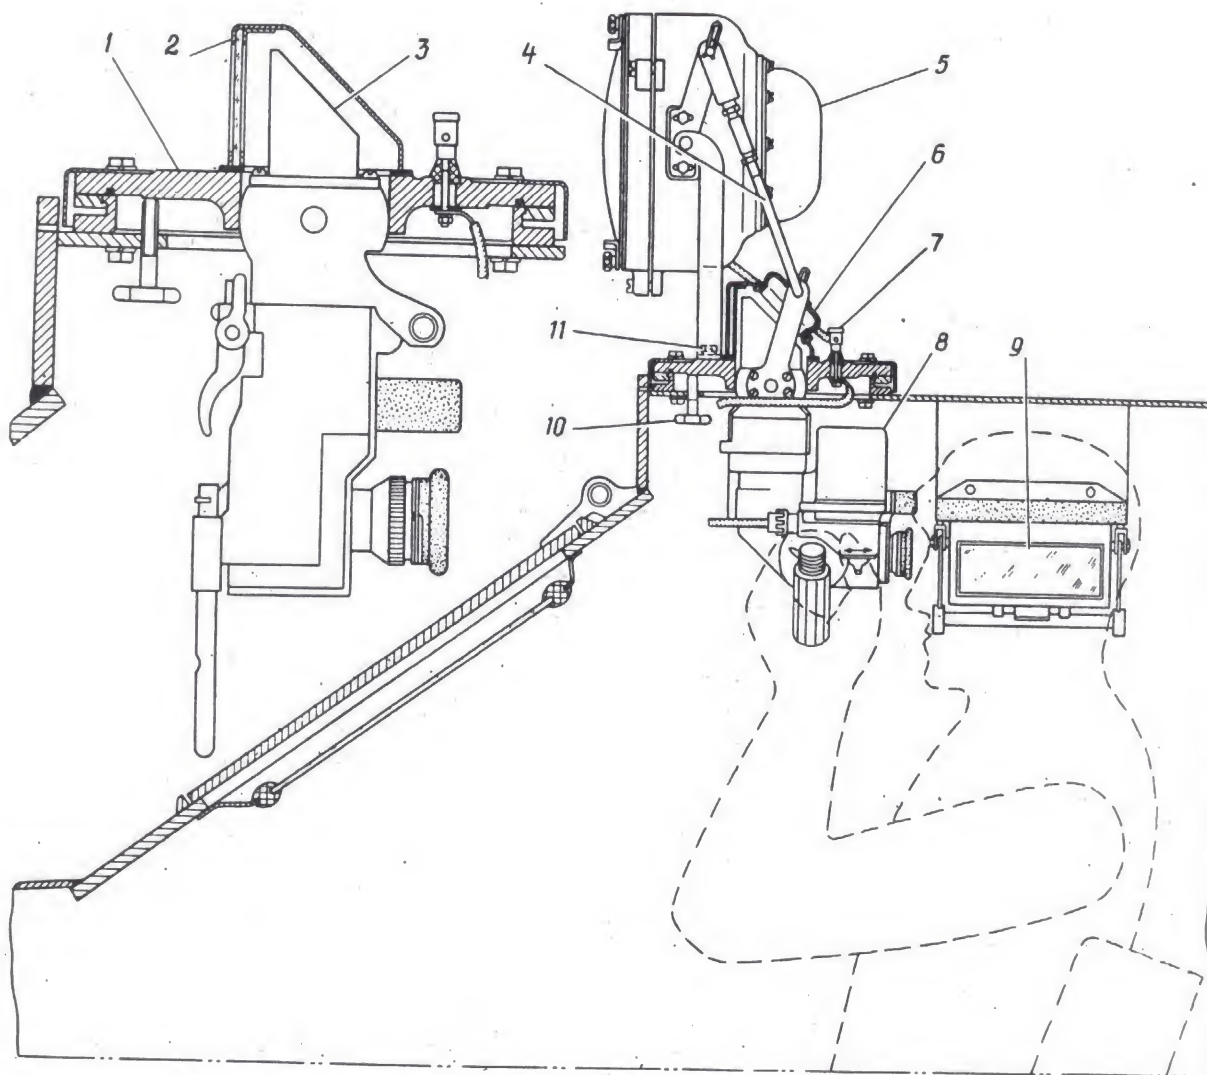

FIG. 106. INSTALLATION OF COMMANDER'S VISION DEVICES
In its operating position the TKH-1C night vision device is secured in the mounting shield at the front armour plate of the vehicle hull (Fig. 106) and is locked by retainers.
1. Remove packing hood 6 (Fig. 106) of device TKH-1C from the stowage box and install it on the shield instead of packing hood 2 of device TTKV-2B which should be placed into the box.
- (c) slacken the lock nuts on rod 4 (see Fig. 106) connecting the spotlight with the vision device;